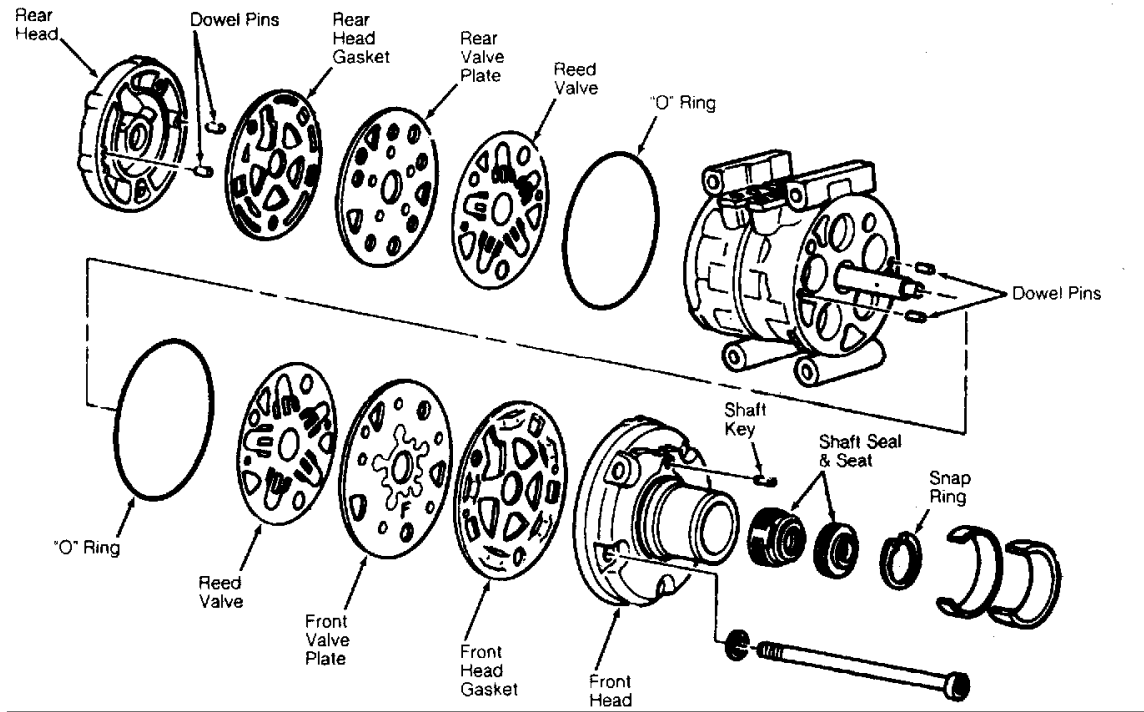

Fig. 3: View of 10P13, 10P15 & 10P15F 10-Cyl Compressor
2. Pull clutch plate from compressor using Clutch Plate Remover (T80L-19703-B). Remove clutch plate shims. Clean compressor area around seal. Remove felt packing and dust seal retainer from nose of front cover. See Fig. 3 .
3. Clean compressor front hub area. Remove felt packing and dust seal retainer from inside compressor nose. See Fig. 3 . Using Shaft Key Remover (T81P-19623-NH), remove key from shaft.